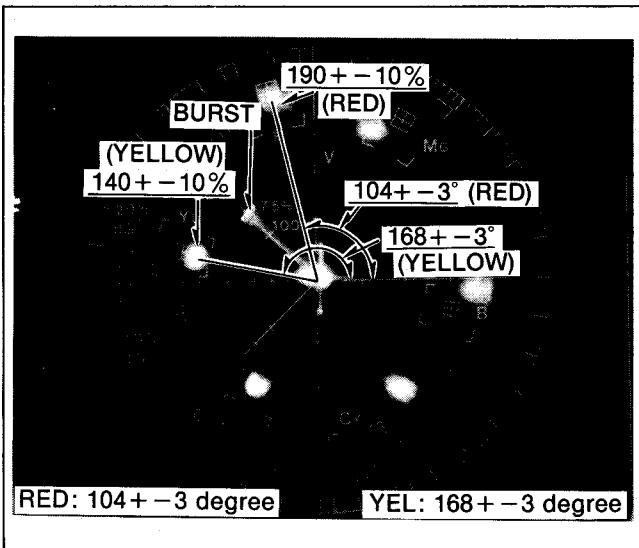

Fig. C23
7. * Push the [INC] or [DEC] keys until phase of red and yellow vectors are as close as possible to Spec. See Fig.C23.
10. Push [INC] or [DEC] keys until phase of red and yellow vectors are as close as possible to Spec. See Fig.C23.
13. Push [INC] or [DEC] keys until phase of red and yellow vectors are as close as possible to Spec. See Fig.C23.
15. Repeat the Step(3) to Step(14) until vectors becomes within Spec. as shown in Fig.C23.